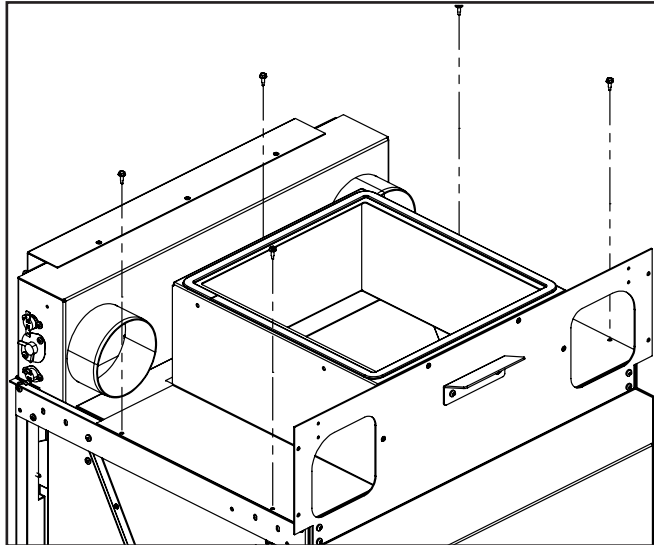

Figure 11: Back HDK assembly secure.
11. Attach the hopper extension side flanges where the screw clearance holes are cut, line up edge of hopper extension with edge of support rail and use self drilling screws to secure. Attach the front flange on hopper extension using self drilling screw, figure 11.